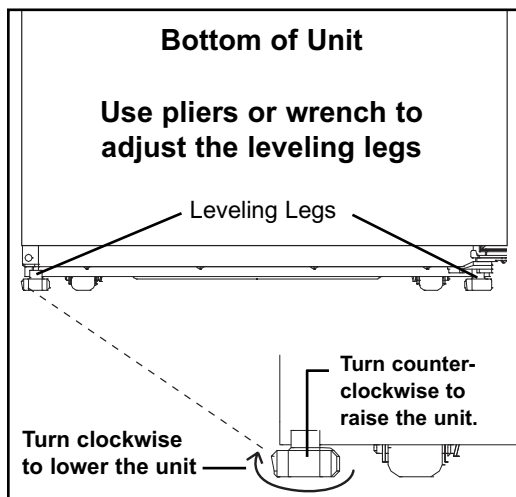

Fig.1.
To avoid vibration, the unit must be set level. This is accomplished by adjusting the (2) front leveling legs, located under the refrigerator. (**Fig 1**)
- 6) Remove the cover of upper hinge holes from left side and move it to opposite side (see **Figure 1** on following page).